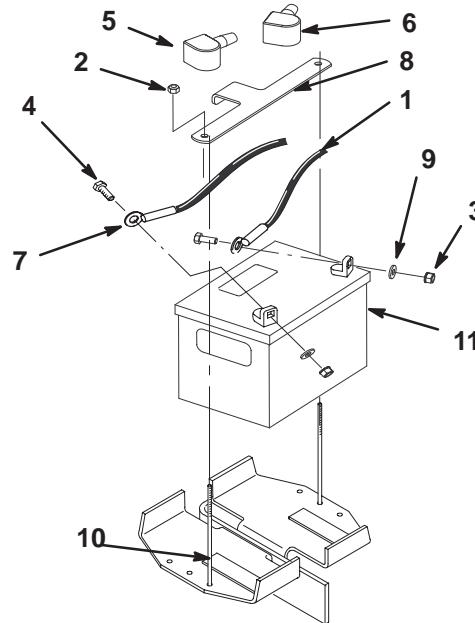

Figure 54
3. Lift the black rubber cover up on the negative cable. Disconnect the negative (black) ground cable from the battery post (Fig. 54).
4. Lift the red rubber cover up on the positive cable. Disconnect the positive cable (red cover) from the battery post (Fig. 54).
5. Remove the battery hold down plate (Fig. 54). Remove battery from the machine.